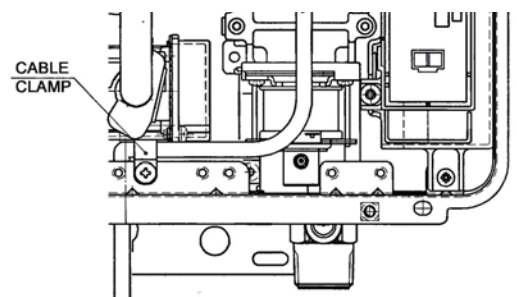

Fig. 4
4. Securely fasten the EZ Connect cable to the bottom of each water heater with the cable clamps and screws supplied. (Fig. 4)